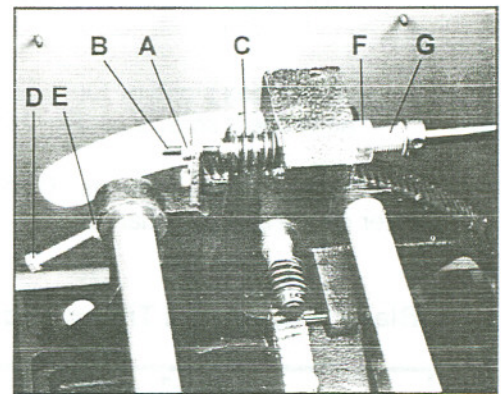
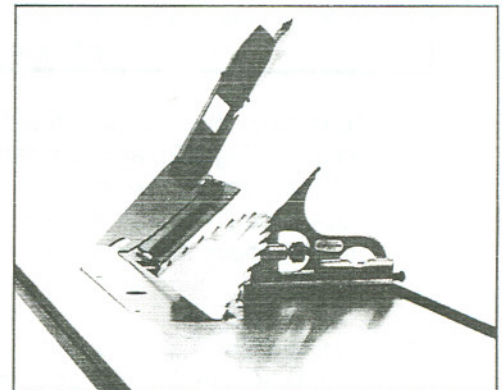

Fig. 32
Fig. 33
5. If blade is not at 90 degrees, loosen lock nut (A, Fig. 32) and turn adjusting stop screw (B, Fig. 32) in or out. The adjusting stop screw (B, Fig. 32) should stop against the end of the tilting screw (C, Fig. 32) when the blade is 90° to the table.
6. Place a square on the table after turning the blade to the 45° stop (Fig.33). If the 45° positive stop is not set properly, follow the same procedure using screw (D, Fig. 32) and lock nut (E, Fig. 32).
2. Loosen lock nut (F, Fig. 32).
3. Turn eccentric sleeve (G, Fig. 32) until play is removed. Flat area on sleeve accommodates a wrench.
4. Tighten lock nut (F, Fig. 32).